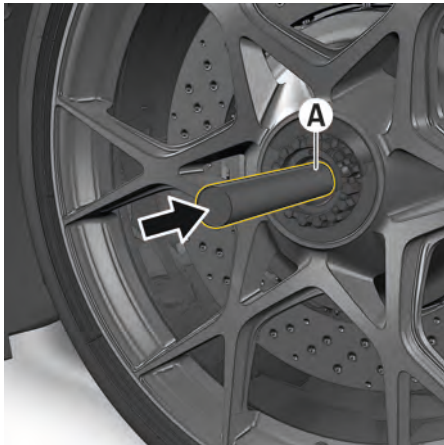

Fig. 198: Loosen the safety bolt
- ▶ In this case, loosen the safety bolt **A** (Fig. 198) with a suitable tool, e.g., by lightly tapping a thin round bar with a rubber mallet.